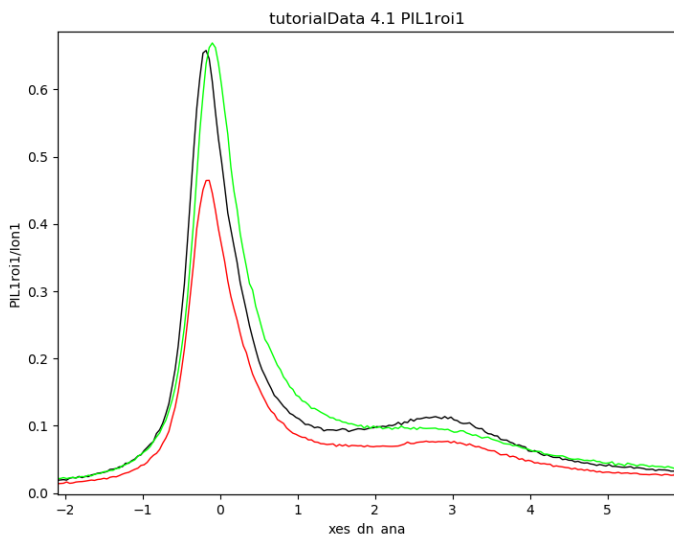

Figure 3-2: The three Kβ mainline spectra are plotted
- 3) Moving on to the data, go ahead and click on scan number 4 to plot it, making sure that the “X” column is chosen to be “xes_dn_ana”, “Y” is “PIL1roi1”, and “mon” is “lon1”. Once that’s done, click on scans 5 and 6 to plot them as well. Once plotted, the PyMCA window should look like Figure 3-2.